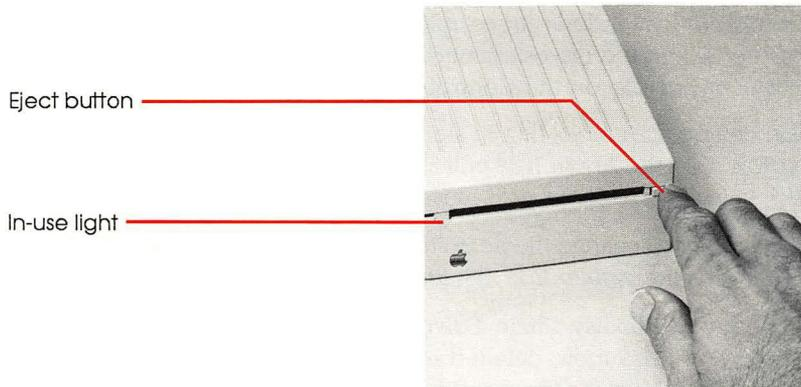

Figure 1-3
- Figure 1-3 Removing a 3.5-inch disk 3